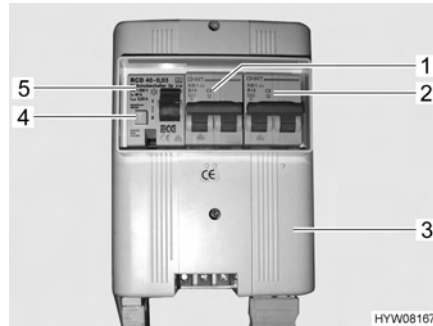

Fig. 61 240 V fuse box with safety cut-out and RCD
A fault current protection switch (RCD) (Fig. 61,5) in the fuse box (Fig. 61,3) protects the complete vehicle from fault current (0.03 A).
The downstream safety cut-out (10 A) (Fig. 61,1) secures the 240 V sockets, the power supply unit, the auxiliary charging unit and the refrigerator.
For vehicles with special equipment, e.g. air conditioning unit, an additional safety cut-out (16 A) (Fig. 61,2) secures the device.
- When the vehicle is connected to the 240 V power supply, press the test button (Fig. 61,4). The fault current protection switch (RCD) must be activated.